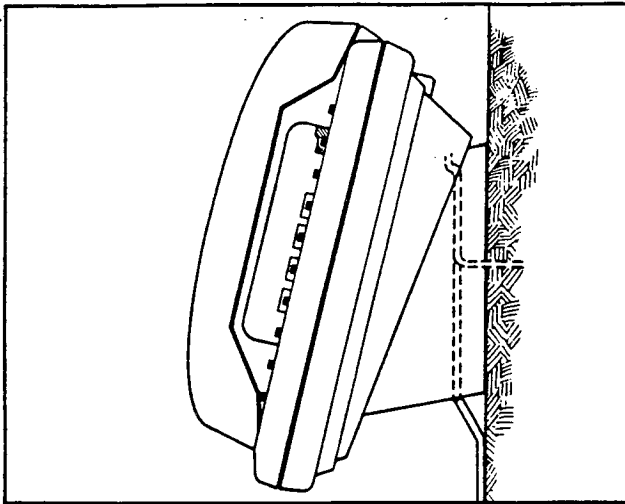

FIGURE 23—"S" EKT WIRE ROUTING
10.16 Route the tail cord as shown in Figure 23.